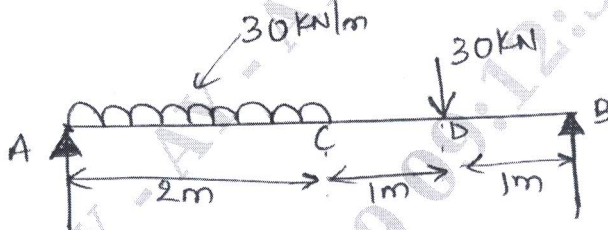

Fig. Q6 (a)
- 6 a. A simply supported beam is subjected to a UDL of 30 kN/m together with a point load of 30 kN as shown in Fig. Q6 (a). Draw SFD and BMD. Find also point of zero shear and its corresponding BM.